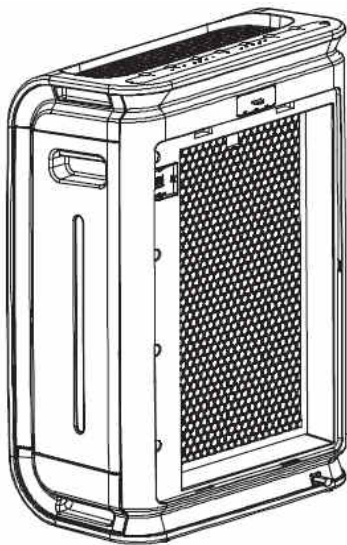

Fig 4
4. Put back the active carbon filter into the appliance, and fix the filter properly. (Fig 4)